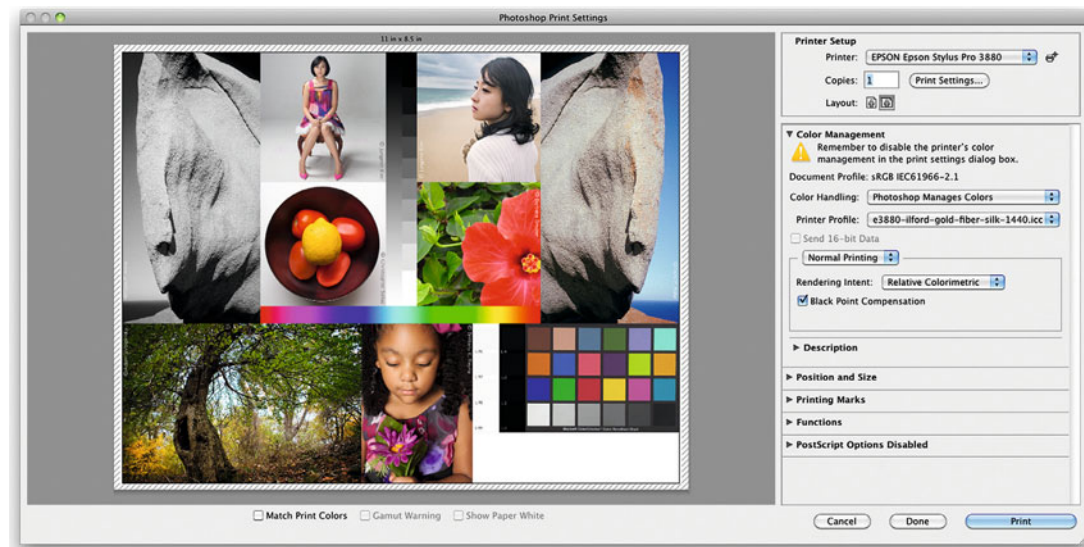

FIGURE 8.36 Printing the test page from Chapter 3 in the Photoshop Print Settings window.
The most common use for a printer/paper profile is, of course, making a print. As we discussed, to get the desired monitor to print match, you need to convert your image to the printer/paper profile before you send the image data to the print driver, but Photoshop allows us to keep the image in the working color space until the last minute and perform this conversion on the fly, as the image is sent to the print driver. This is done from the Photoshop **Print Settings** window (Figure 8.36), which is launched by clicking **File > Print** from the menu bar.
2. *Set the Color Management Settings and Printer/Paper Profile.* On the right-hand side of the Photoshop **Print Settings** window, shown in Figure 8.36, make sure you're showing the **Color Management** section. From there, verify that the **Document Profile** shown is the same as your image's color space. If they are not the same, Photoshop might make a false assumption about the colors in your image and give you an inaccurate print.
FIGURE 8.39 Printing the test page from Chapter 3 in the Photoshop Print Settings window with ‘Match Print Colors’ check box selected and showing a change in scale and addition of corner crop marks compared with Figure 8.36.